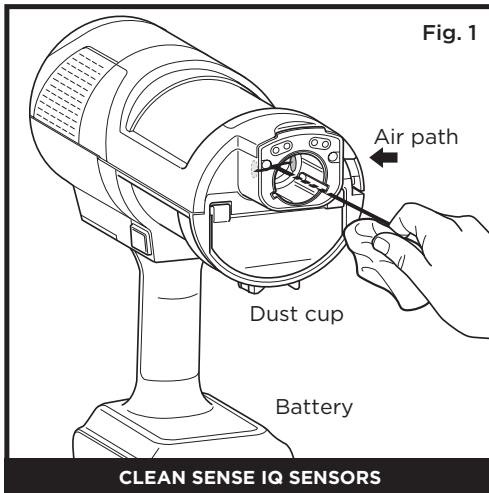
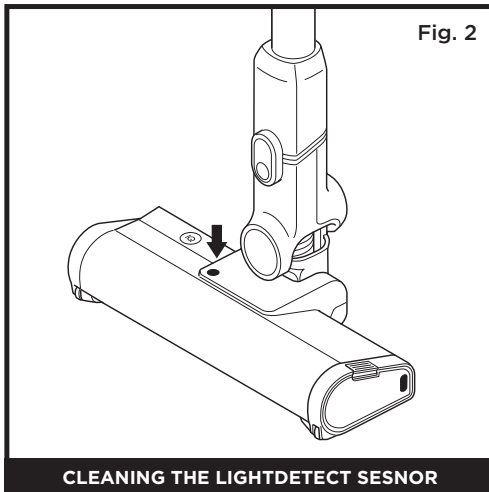

Fig. 1
Fig. 2
To clean the sensors (Fig. 1):
2. Locate the DirtDetect Sensor in the nozzle of the hand vac (Fig. 1), the LightDetect Sensor on the top of the nozzle (Fig. 2), and the EdgeDetect sensor on the side of the nozzle (Fig. 3).